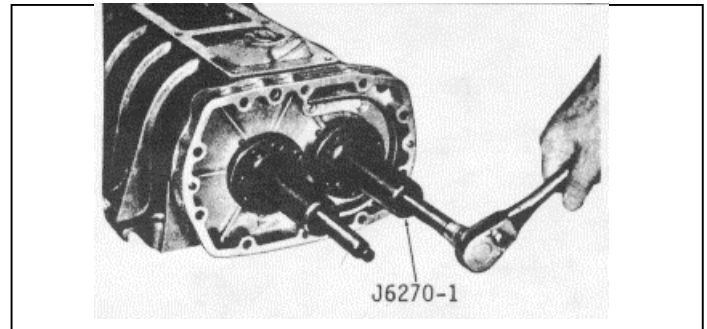
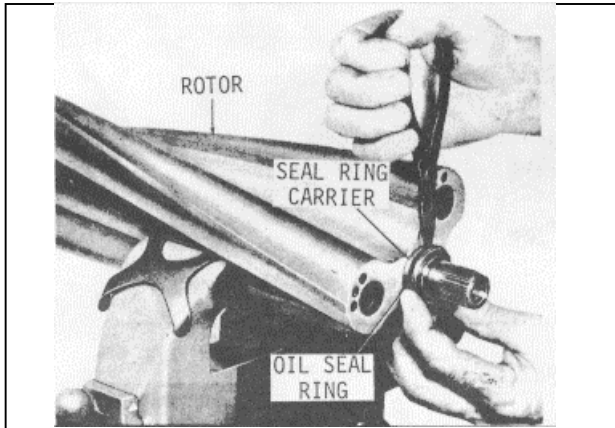
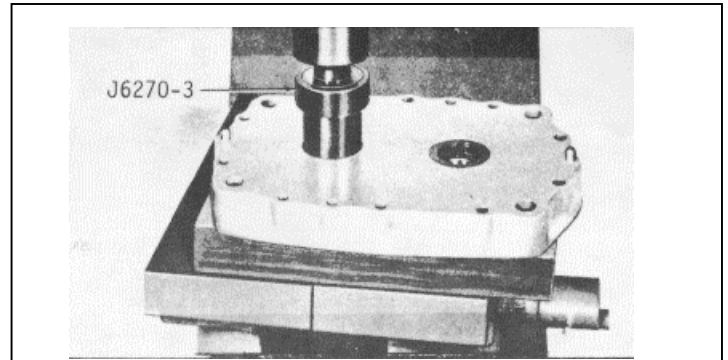

Fig. 5. Removing Blower End Plate
Fig. 6. Removing Oil Seal Ring from Carrier
Fig. 8. Removing Oil Seal Ring Carrier (or Seal Ring Collar) and Bearing from End Plate
- (1) Remove the ten bolts and lockwashers securing the end plate covers (28) and (29) to the blower front and rear end plates. Tap the ends of the end plate covers with a plastic hammer to loosen the covers from the gaskets and dowel pins in the end plates. Then, remove the covers and gaskets from the end plates.
- (2) Place a clean folded shop towel between the rotors and a towel between the rotor and the housing to prevent the rotors from turning. Then, remove the bolt securing the water pump drive coupling to the blower rotor shaft as shown in Fig. 5.
- (3) Thread adapter J 6471-4 (1/2"-20 threads) or adapter J 6471-10 (9/16"-18) into the water pump drive coupling, then attach side hammer and shaft J 2619-5 to the adapter and pull the drive coupling from the blower rotor shaft.
- (d) Turn the two puller screws uniformly clockwise and withdraw the end plate and bearings from the blower housing and rotors as shown in Fig. 5.
- (8) Remove the blower front endsplate in the same manner as described under Step 7.
- (9) Withdraw the blower rotors from the housing.
- (10) Remove the bearings and the lip type oil seals from the blower end plates as follows:
- (c) Place the long end of the oil seal removed and installer J 6270-3 down through the oil seal and into the bearing, with the opposite end of the remover under the ram of the press (Fig. 8). Then, press the bearing and oil seal out of the end plate.
- (11) Remove the bearings and ring type oil seals (if used), carriers and collars from the blower rotor shafts and end plates as follows:
- (a) Clamp one lobe of the rotor in a bench vise equipped with soft jaws (Fig. 6). Tighten the vise just enough to hold the rotor stationary.
- (c) Remove the oil seal ring from the seal ring carrier on each blower rotor shaft with a pair of snap ring pliers J 4880 as shown in Fig. 6.
- (i) Refer to Fig. 8 and support the outer face of the blower end plate on wood blocks on the bed of an arbor press.
- (j) Place the long end of the oil seal remover and installer J 6270-3 down through the oil seal ring collar and into the bearing, with the opposite end of the remover under the ram of the press (Fig. 8). Then, press the bearing and oil seal ring collar out of the end plate.
- (e) Install an oil seal ring in the ring groove of each carrier with a pair of snap ring pliers J 4880 in the same manner as shown in Fig. 6.